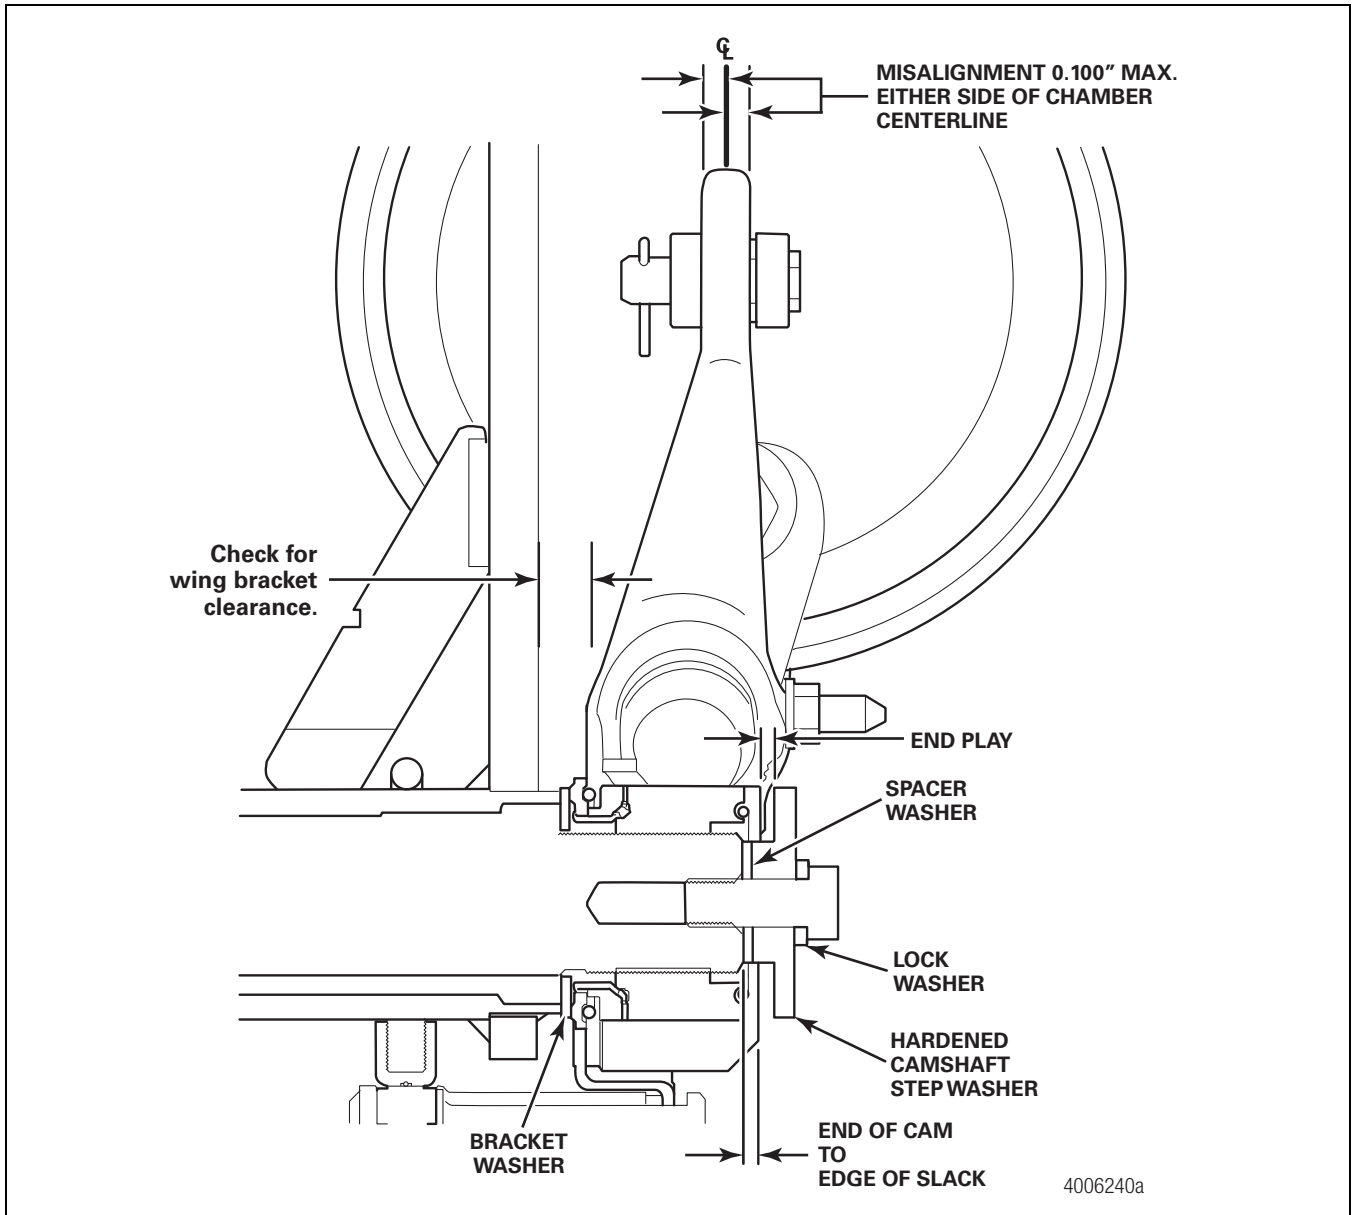

Figure 7.11
Refer to Figure 7.11 for measurement location and component description.
- Actuate the brake by pulling on the slack adjuster to ensure the cam and roller move freely and that the shoes retract when the slack adjuster is released. Figure 7.11.